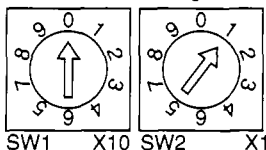

Figure 4-9
1) SETTING METHOD See Figure 4-9.